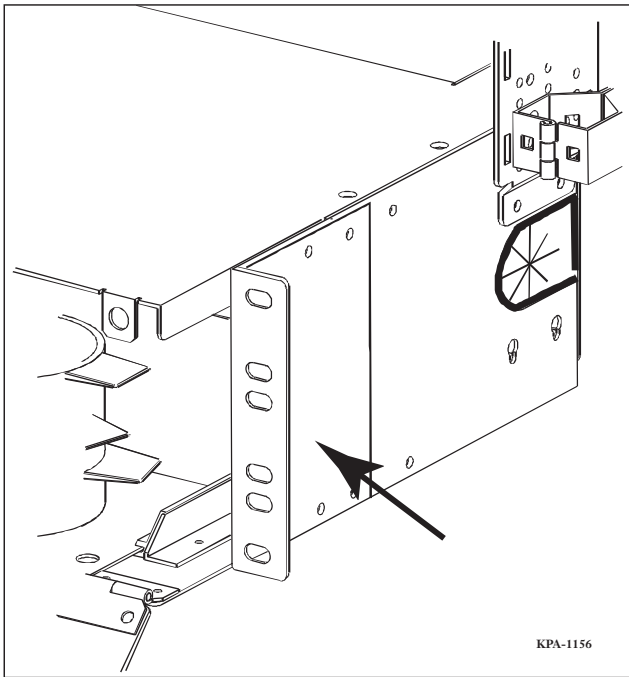

Figure 6
- **Partially Flush Mounting:** To allow jumpers to exit the side of the CSH in front of the mounting rails, remove the brackets already attached to the housing, move them to their forward mounting positions and reattach them to the housing (Figure 6).